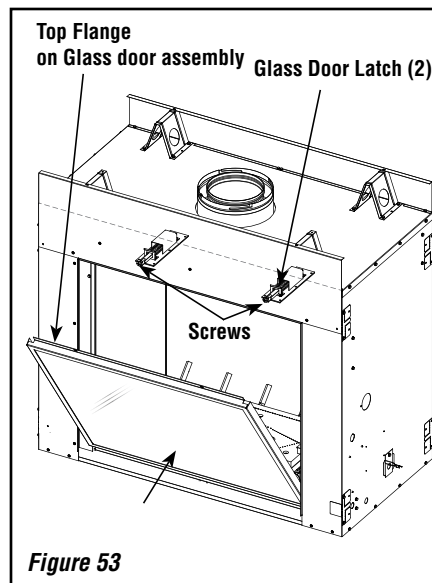

Figure 53
### Installing Glass Doors, and Modesty Panel (see Figure 53)
- b) Position the door in front of the firebox opening, with the top of the door held away from the fireplace (see **Figure 53**).
- d) Using a #3 Phillips screwdriver, fasten the door frame to the door latches with the two (2) latch screws. The latches should pull forward to engage the door frame.
### Removing Glass Doors, Barrier, and Modesty Panel (see Figure 53)
- a) See **Figure 53**. While holding the top of the glass door frame in place, use a #3 Phillips screwdriver to remove the two (2) screws securing the door frame to the two (2) door latches.
- b) Carefully tilt the top of the glass door frame away from the unit (as shown in **Figure 53**), and then lift the door assembly up and out of the lower track.